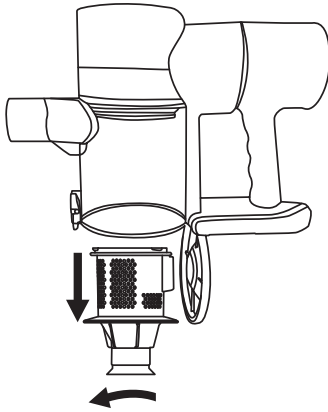
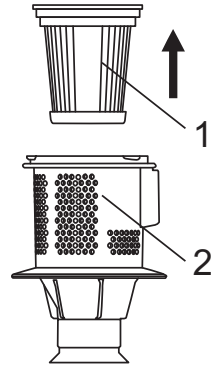

Figure 5
Figure 6
2. Open the bottom of the dust cup and turn it anticlockwise to take out the filter screen, as shown in Figure 5; Remove the Hepa (1) from the filter screen for cleaning or replacement (note that only the washable HPA can be washed with water), clean the filter screen (2), and dry it after washing before it can be loaded into the dust cup and continue to use Figure 6.